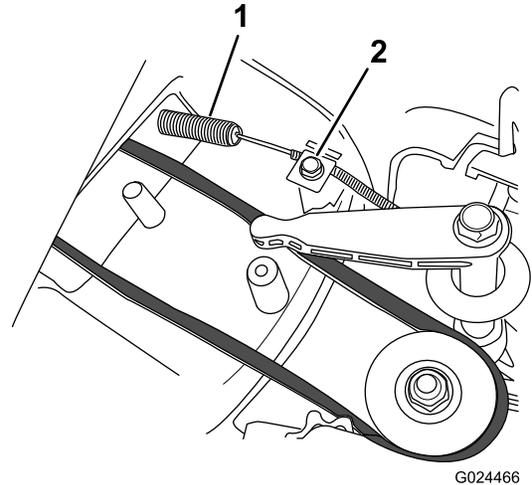

Figure 31
2. Install the new blade-brake cable, but do not tighten the cable clamp on the top of the mower housing (Figure 31).